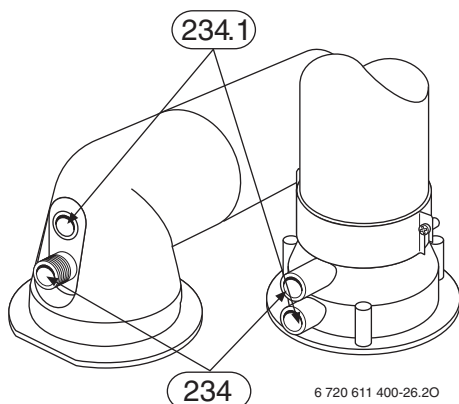

Fig. 43
- ▶ Remove sealing plug from combustion air testing point (234.1, fig. 43).
- ▶ Remove sealing plug from flue gas testing point (234, fig. 43).